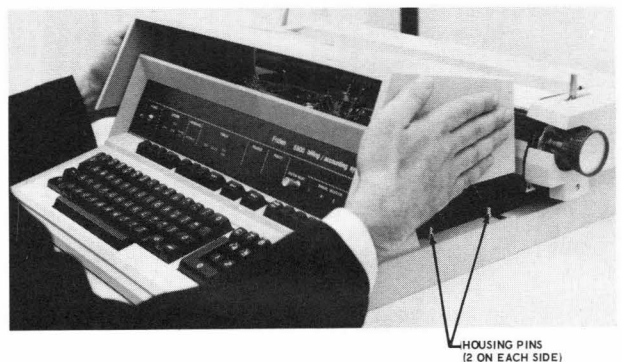

Figure 12. Front Cover Plate Removal and Replacement.
1. Firmly grasp the sides of the cover plate as shown in Figure 12 and lift up.